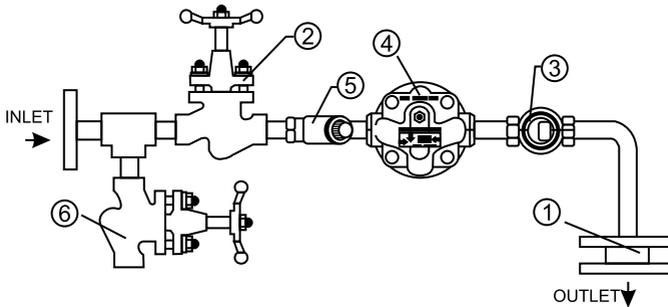

Figure 4: Single Orifice Float trap module
**5.** Installation Guidelines: (Refer to Figure 4, 5, and 6)
### 6.1 Flushing of Lines (Refer to Figure 4)
### 6.2 Commissioning : (Refer to Figure 4)